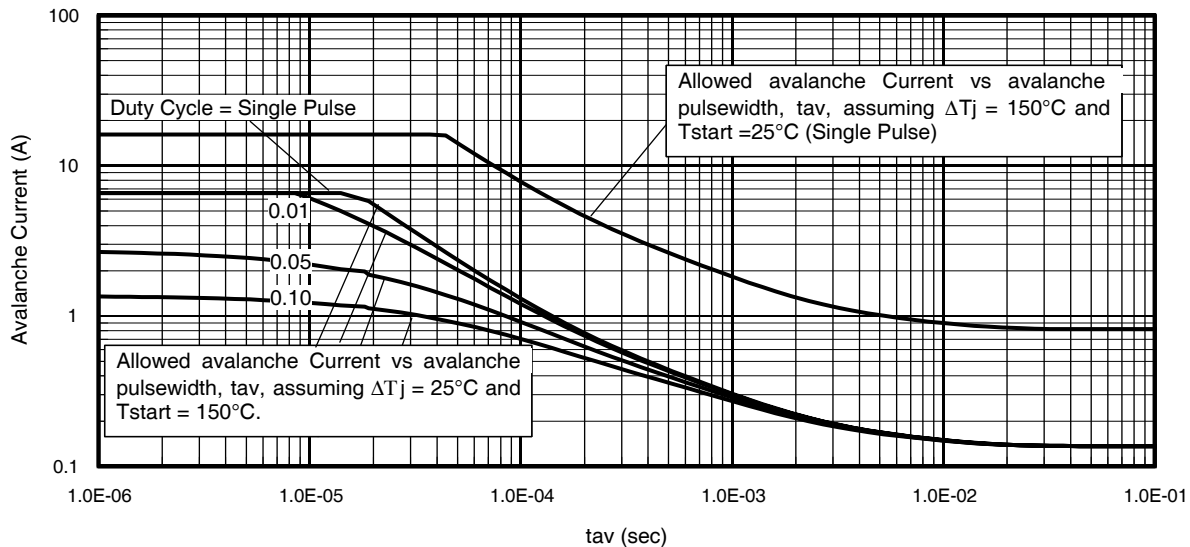

Fig 14. Typical Avalanche Current Vs. Pulsewidth
- ① Repetitive rating; pulse width limited by max. junction temperature.
② Starting $T_J = 25^\circ\text{C}$, $L = 1.46mH$, $R_G = 25\Omega$, $I_{AS} = 10A$.
③ Pulse width $\leq 400\mu s$; duty cycle $\leq 2\%$.
④ R_{θ} is measured at T_J of approximately 90°C .
⑤ Limited by T_{jmax} . See Figs. 14, 15, 17a, 17b for repetitive avalanche information
Notes on Repetitive Avalanche Curves , Figures 14, 15:
7. ΔT = Allowable rise in junction temperature, not to exceed T_{jmax} (assumed as 25°C in Figure 14, 15).